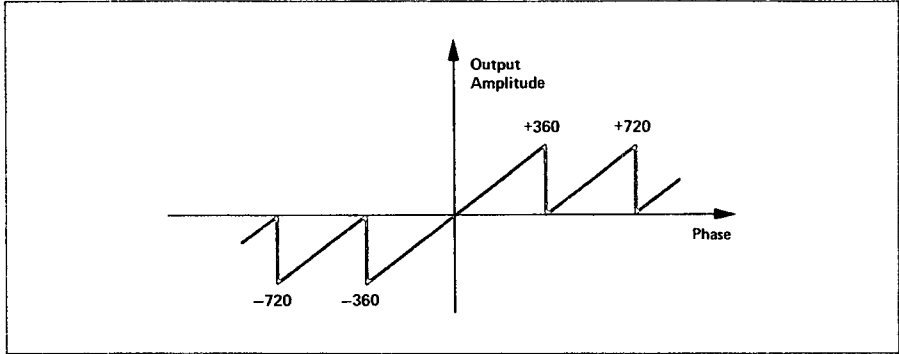

Figure 12. Typical Phase-Frequency Detector Phase/Amplitude Characteristic.
A major element in every PLL and often a difficult one to actually evaluate is the phase detector. Frequently phase detectors can be characterized by offsetting two synthesizers a few hundred hertz, thus sweeping through the phase detector's phase/amplitude characteristic. Although adequate for some phase detectors this method has two serious problems. First, it is often impossible to look at a small section of the phase detector curve in greater detail. Second, and more important, certain types of phase detectors cannot be evaluated at critical points—particularly the popular phase-frequency detectors of the type shown in Figure 12. With this type of detector it is difficult to determine the actual cross-over characteristic without phase modulation.
1. With the equipment connected as shown, set both 8660's to the same frequency, turn the modulation off, and step 8660 #2 up and back down again until the dc voltage out of the phase detector is reached for that portion of the phase detector characteristic to be analyzed. For phase-frequency detectors such as those shown in Figure 12, it will be necessary to step 8660 #2 down first and then back up in order to analyze the region to the left of the cross-over point. This procedure is described in more detail in the section on using a low frequency spectrum analyzer to obtain PLL frequency response, page 6.